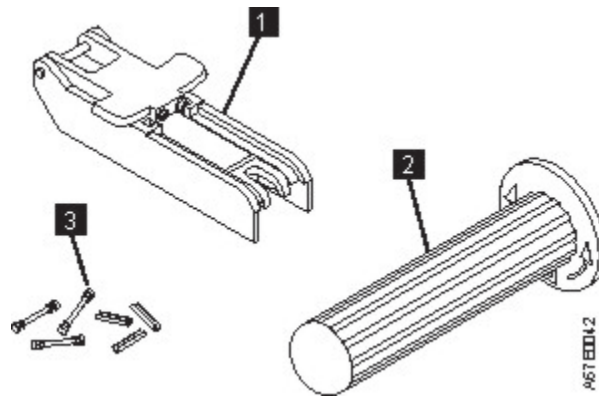

Figure 96. Leader Pin Reattachment Kit
- **Leader pin attach tool** (see **1** in Figure 96 on page 169). A plastic brace that holds the cartridge door open.
- **Cartridge manual rewind tool** (see **2** in Figure 96 on page 169). A device that fits into the cartridge's hub and winds the tape into and out of the cartridge.
- **Pin supplies** (see **3** in Figure 96 on page 169). Leader pins and C-clips.